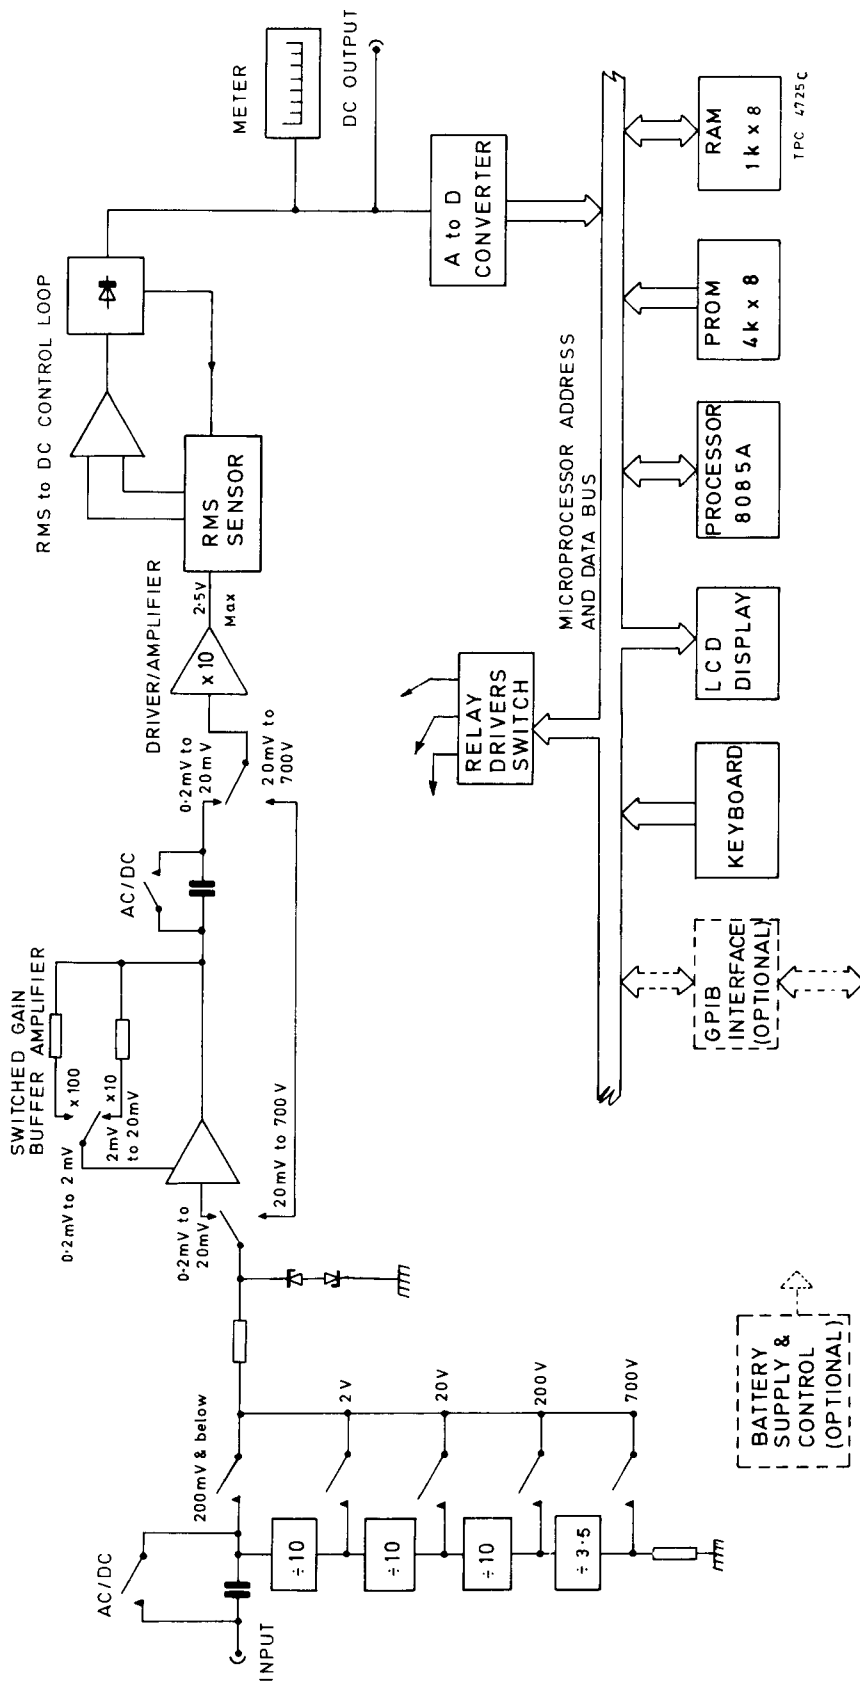

Fig. 1 2610 : simplified block diagram
1. The following summary is an outline circuit description of 2610 and is intended to be read in conjunction with the block diagram Fig. 1. Detailed circuit descriptions and diagrams are given in Chap. 4-2 of the Service Manual.
3. Routing of the input voltage in the range 0.2 mV to 700 V is as shown in Fig. 1. Protection against application of voltages in excess of the maximum permitted is provided by a diode network before the first amplifier.